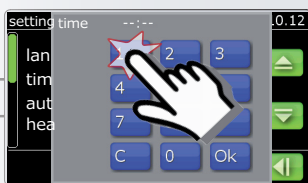

Fig. 18
2. Enter the current clock time via the numeric keypad, confirm with OK (Fig. 18)